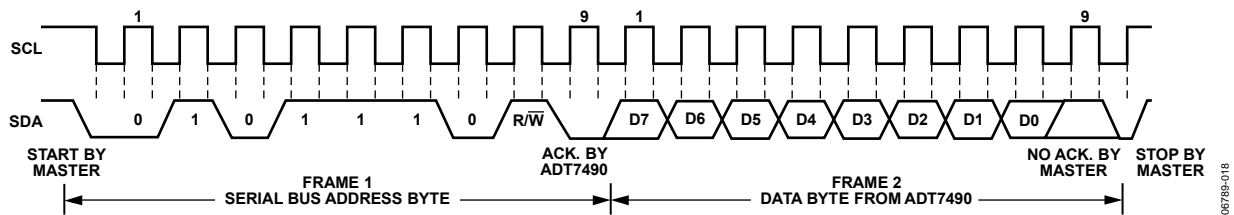

Figure 21. Reading Data from a Previously Selected Register
- A read operation is then performed consisting of the serial bus address, R/W bit set to 1, followed by the data byte read from the data register. This is shown in Figure 21.
- If the address pointer register is known to be already at the desired address, data can be read from the corresponding data register without first writing to the address pointer register, as shown in Figure 21.